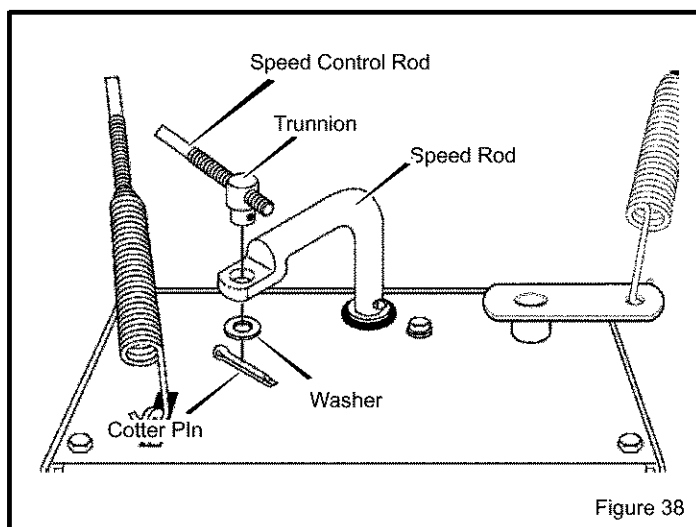

Figure 38
1. Remove washer and cotter pin connecting trunnion nut to speed rod (Figure 38).
4. Disconnect speed control rod from speed rod by removing cotter pin (see Figure 38). Keep trunnion in same position on speed control rod. Movement of the trunnion will result in speed changes.